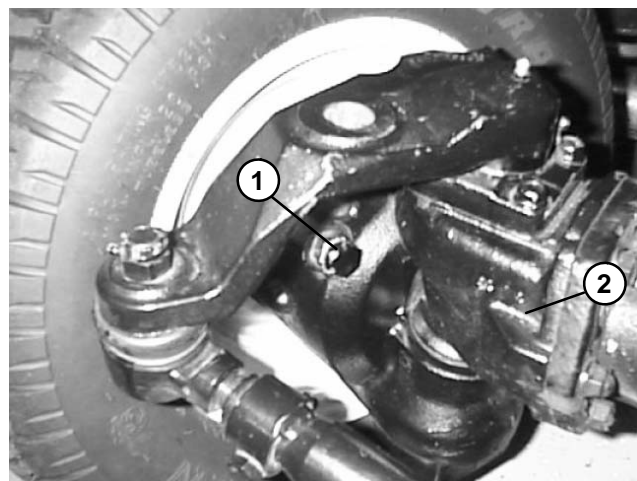

Figure 11
11. Check steering stop bolt adjustment. When the steering cylinder is fully extended in either direction, a gap of 1/16" (1.6 mm) should exist between bevel gear case casting and stop bolt on axle case. Figure 11 shows stop bolt location.